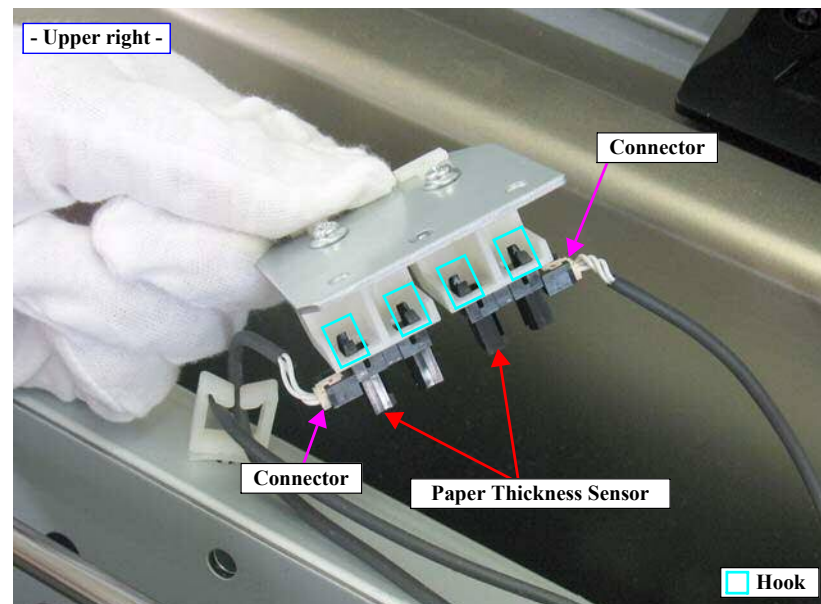

Figure 4-83. Removing the Paper Thickness Sensor
10. Disconnect the connectors from the Paper Thickness Sensors. *See Figure 4-83.*